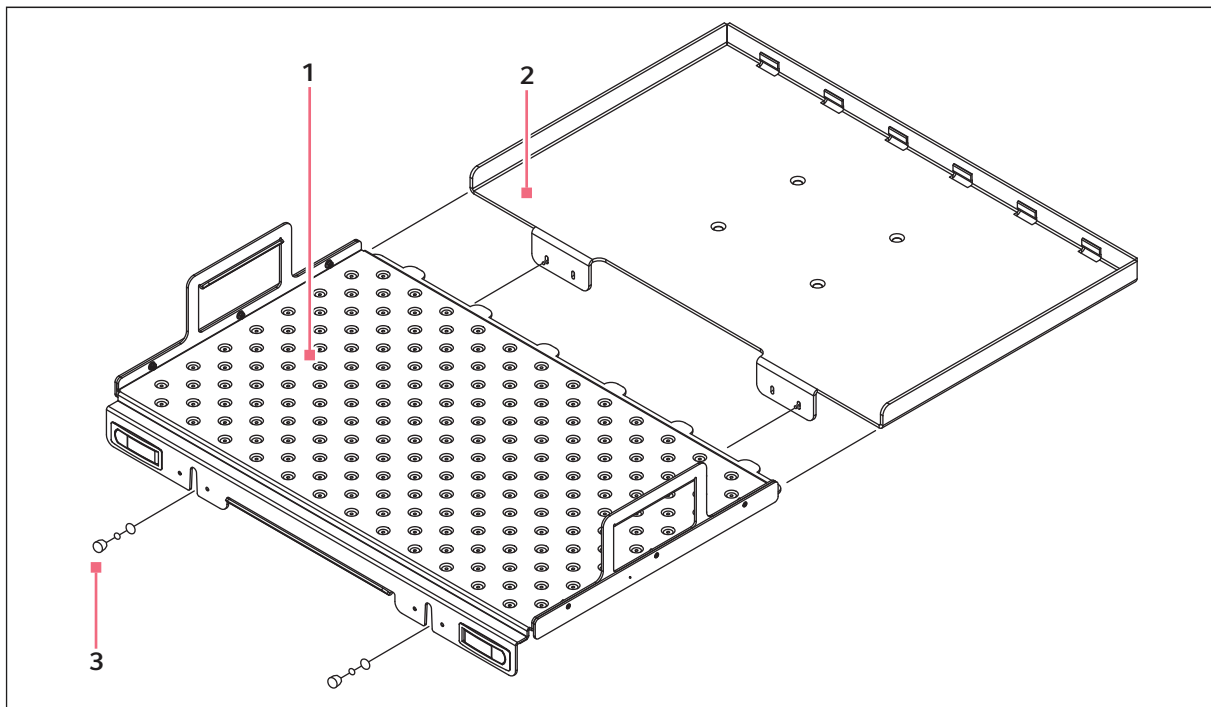

Fig. 4-16: Installing platform
4. Using the side handles of the platform (see Fig. 4-16 on p. 31), place the platform on the guide strips on the flat of the open door.